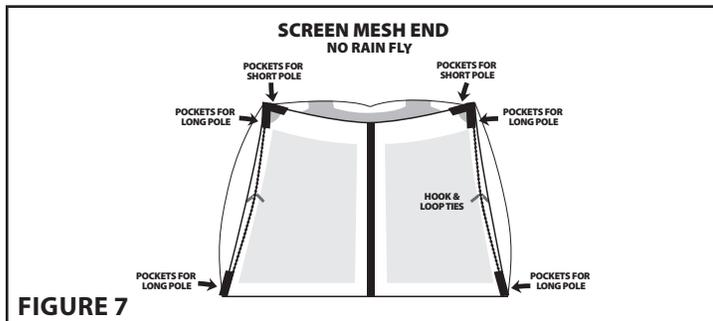

FIGURE 7
- Locate the two (2) longest corded poles and assemble the corded section together to create one pole each. Place the assembled poles in the small pockets located at each inside corner of the vertical screen door. Fasten poles to the vertical seams with the hook and loop tie located about halfway up the seam. [ SEE FIGURE 7 ]
- Locate the one (1) shortest corded pole and assemble the corded section to create one pole. Place the assembled poles in the small pockets located at each inside upper corner of the vertical screen door. Fasten the poles to the horizontal seam with the hook and loop sleeve centered on the seam. [ SEE FIGURE 7 ]